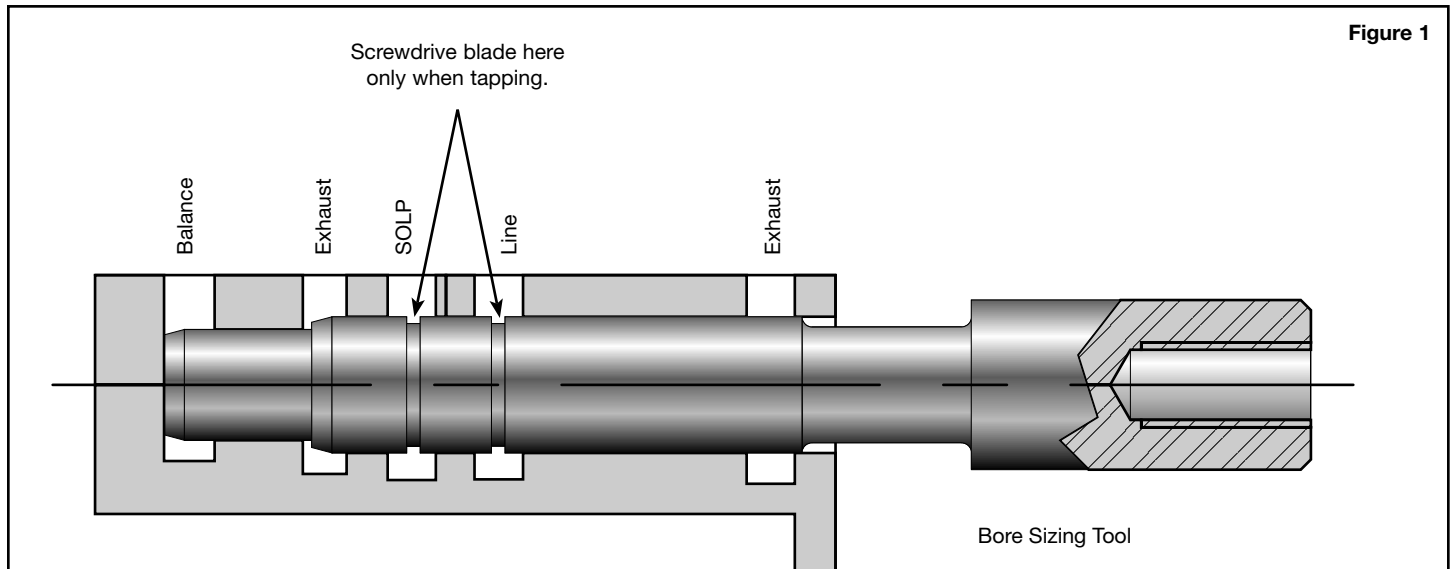

Figure 1
- With the valve in the idle/rest position, place a small amount of oil into the balance port (**Figure 1**, page 2). Follow with low air pressure. There should be little or no oil/air leakage past the valve spool and out the neighboring exhaust port.
- Insert the end of Sonnax bore sizing tool 76948-BST2 into the solenoid regulator bore (Figure 1). Press it into bore until it bottoms. A  $\frac{1}{4}$  – 20 UNC tapped hole is provided in the tool to adapt to a puller or slide hammer, if needed.